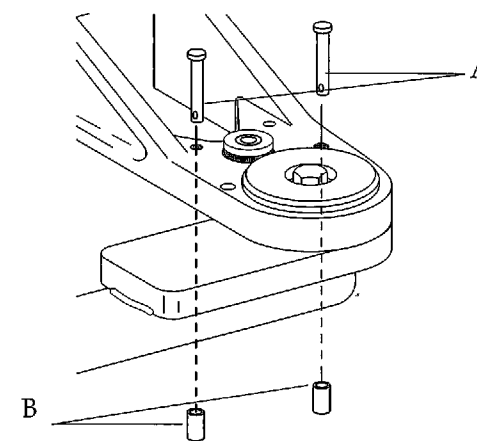

Figure 11. Identifying right-hand rotation stop pins. (A) stop pin; (B) bumper
6. Add the rotation stop pins and bumpers, according to whether the right-handed or left-handed front mount will be installed (see Figures 11 and 12).